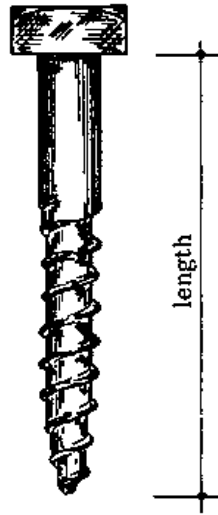

Fig. 4
- **COACH SCREWS:** This is a strong screw with a square head. Unlike other wood screws, it is turned with a spanner. Always put a metal washer under the head to prevent damage to the wood surface. The length is measured from the point to the underside of the head (Fig. 4).